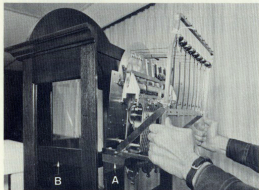

Fig. 1
Remove protective tissue wrapping from movement, but **DO NOT** remove string holding chime hammers until movement is in case. Holding movement by the tube rack (Fig. 1), set seat board (A) on side rails (B) in cabinet. Slide movement forward until it is flush with face of cabinet. Line up clock face with opening in cabinet. Using key, open front door. Next, using a nail or long, thin object, line up screw holes in seat board and side rails. Screw seat board to side rails, using four phillips screws located in small envelope on top of seat board. Screws should be *tight*.